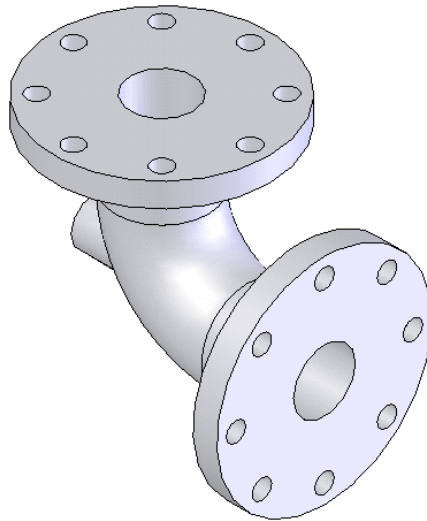
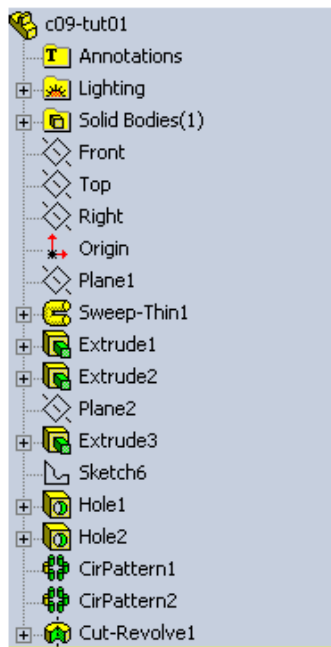

Figure 9-109 Final model of Tutorial 1
Figure 9-110 The FeatureManager Design Tree for the model
- Create the extrude features on both ends of the sweep feature, refer to Figure 9-109.
- Create the hole using the **Simple Hole PropertyManager**, refer to Figure 9-109.
- Create the pattern of the hole feature, refer to Figure 9-109.
- Create the counterbore hole using the cut revolve option, refer to Figure 9-109.
The final solid model of Tutorial 1 is shown in Figure 9-109. The model tree of the model is shown in Figure 9-110.